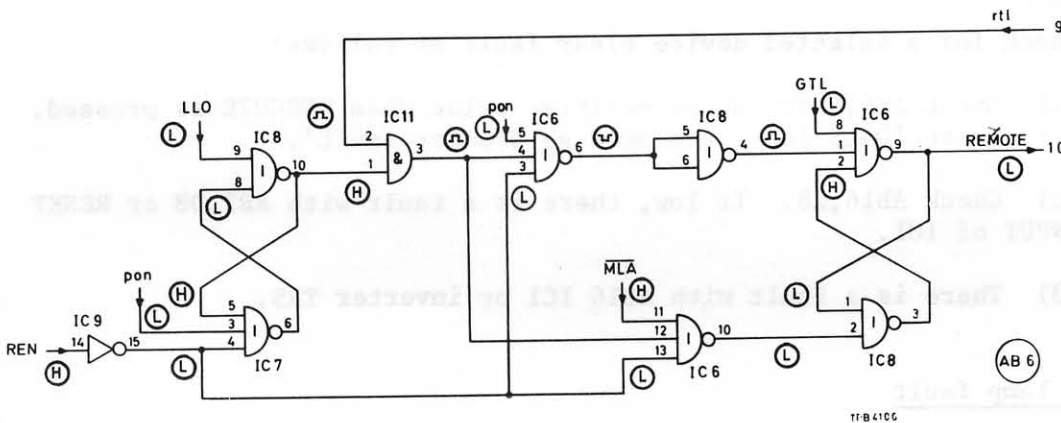

Fig. 1 'rtl fault' logic levels (pulse occurs when C key is pressed)
- (1) Place AB6 on extender board and switch on. With REN and ATN at 1 press EXECUTE to send MLA (REMOTE lamp comes on).
- (2) Check AB6,9 for positive rtl pulse when C key is pressed. If not, fault in RAM 1 output port or interconnections.
- (3) Localize fault by comparing logic levels with those shown in Fig. 1.